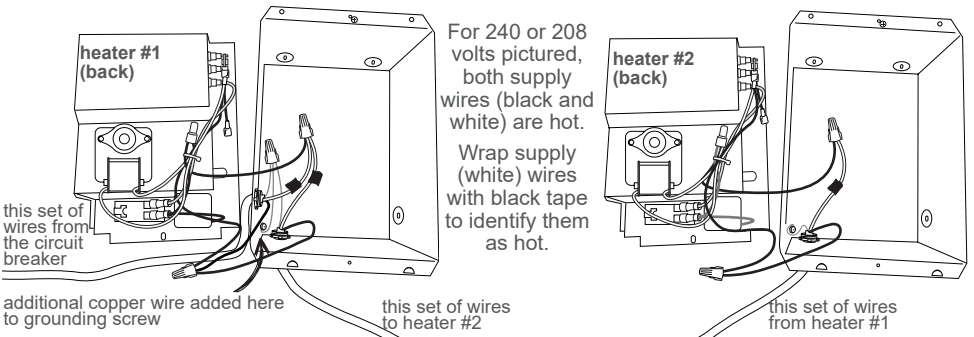

Figure 8
1. Route the electrical supply wire from the circuit breaker to heater #1. Remove two knockouts and attach two sets of electrical supply wire with two cable clamp connectors (not included) leaving a minimum of 6 inches wire lead—one set from the circuit breaker, the other set to heater #2 (See Figure 8).
2. The two supply ground wires in the wall can of heater #1 need to make a 3-wire connection with the grounding screw. Attach a short copper ground wire to the grounding screw in the wall can. Connect this wire and the two supply ground wires with a wire connector (not included) (See Figure 8).